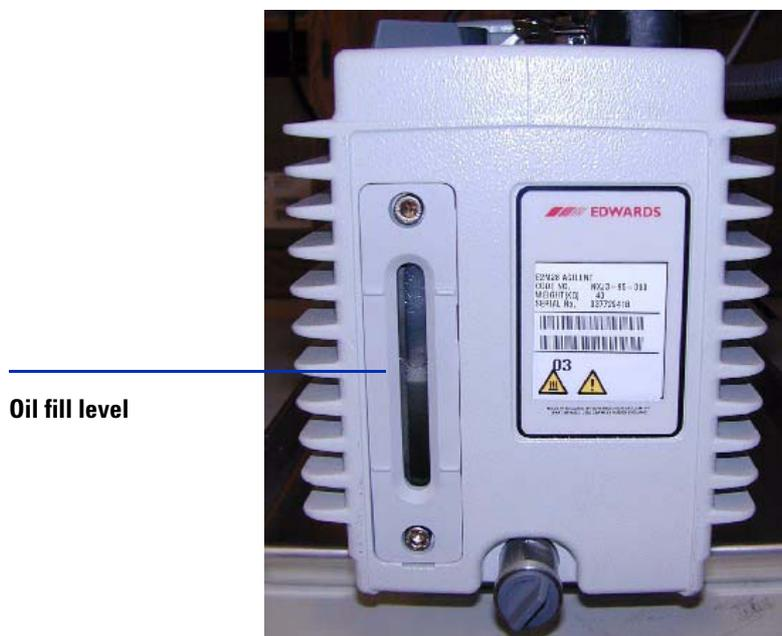

Figure 76 Fluid level window on the rough pump
- Check the fluid level in the window of the rough pump. The fluid level should be between the marks for Max and Min (see Figure 76).